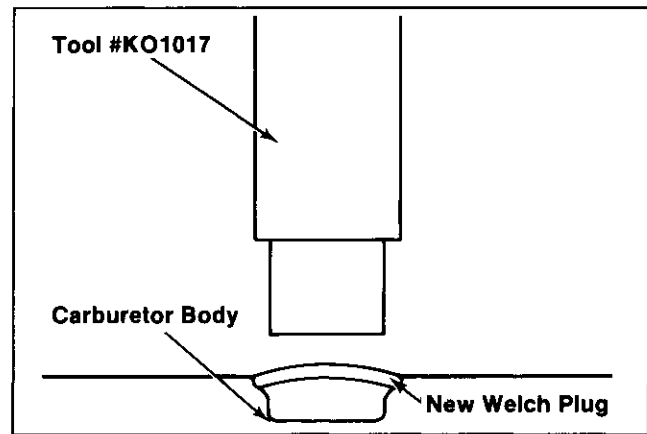

Figure 6-29. Installing Welch Plugs.
- Place a new welch plug into the cavity with the raised portion up. Use the end of the tool that is about the same size as plug and **flatten** the plug. Do not force the plug below the top surface. Refer to Figure 6-29.